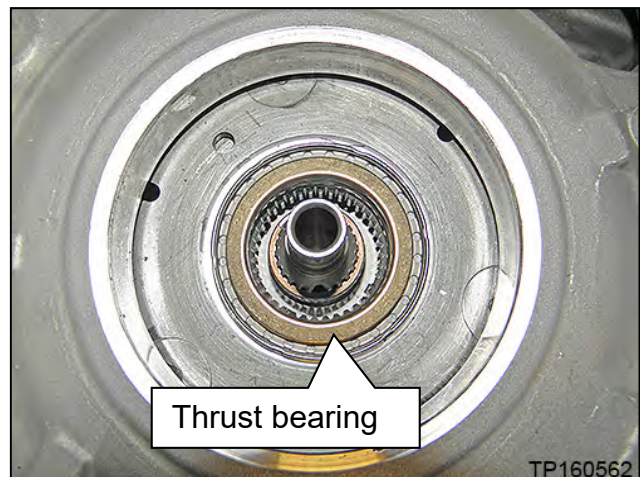

Figure 84
67. Remove the thrust bearing from the planetary carrier plate (Figure 84).